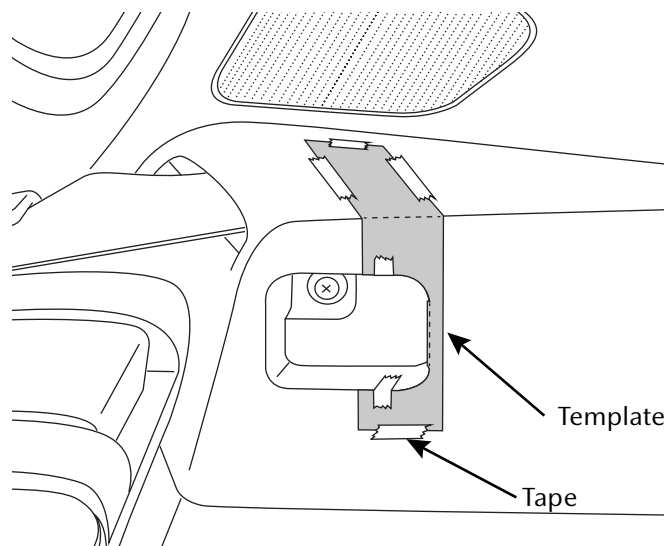

Figure 2
- D. Tape templates into place (Figure 2).